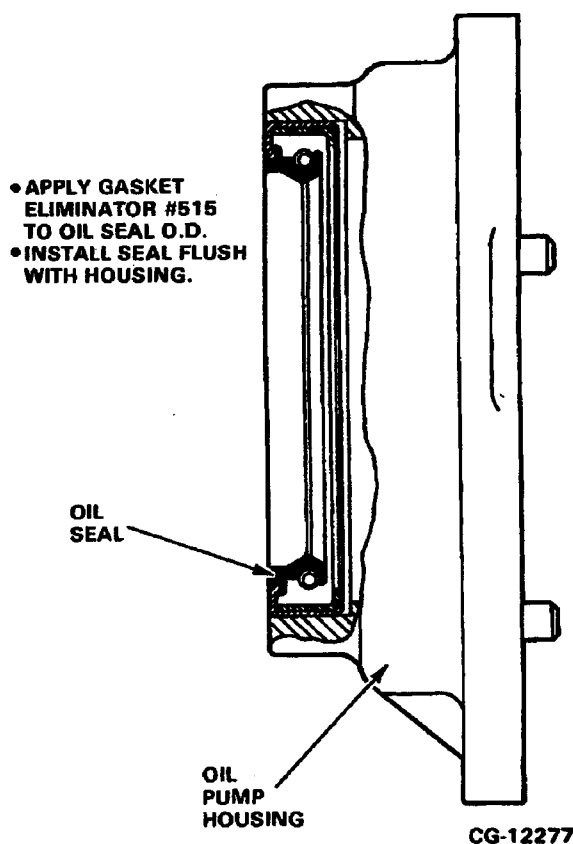

Figure 9.12. Oil Seal Installation Diagram
- b. Press the seal into the oil pump housing so the front of the seal is flush with the front of the oil pump housing. Refer to Figure 9.12.